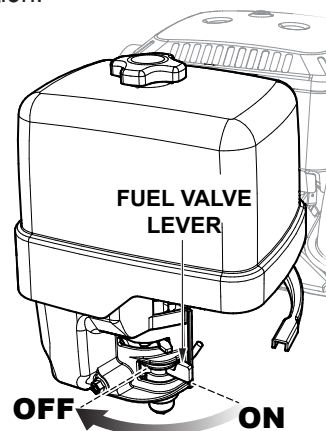

Figure 16. Engine Fuel Valve Lever (OFF)
3. Place the engine fuel valve lever (Figure 16) in the **OFF** position.